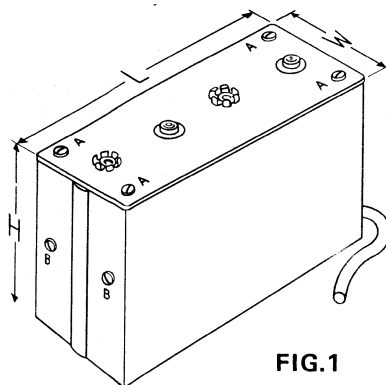

FIG.1
- Before connecting supply, remove the four screws referenced 'A' in Fig. 1 and raise top plate which is joined by two wires to the internal circuit.
Removal of Wrap: Should it be necessary to gain access to the interior of the unit, withdraw the six screws referenced A and B in Fig. 1, raise and tilt top plate and lift off wrap via top of unit.